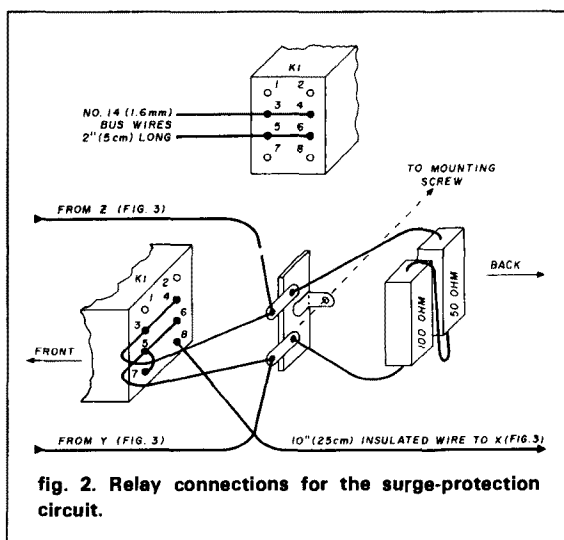

fig. 2. Relay connections for the surge-protection circuit.
1. Solder No. 14 (1.6 mm) bus wire 2 inches (5 cm) long to pins 3 and 4 of relay K1 (fig. 2).